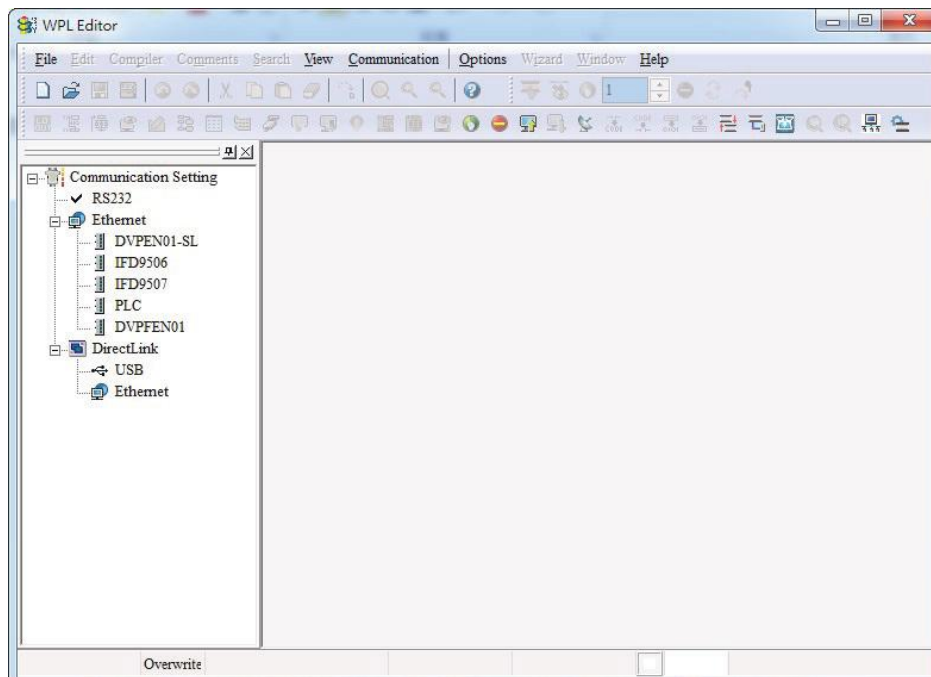

Figure 16-9
Step 2. Then the WPLSoft editing window appears (see Figure 16-9 below). When running the WPLSoft for the first time, before you create a new project file, the menu bar shows only **File**, **View**, **Communications**, **Options**, and **Help** menus.